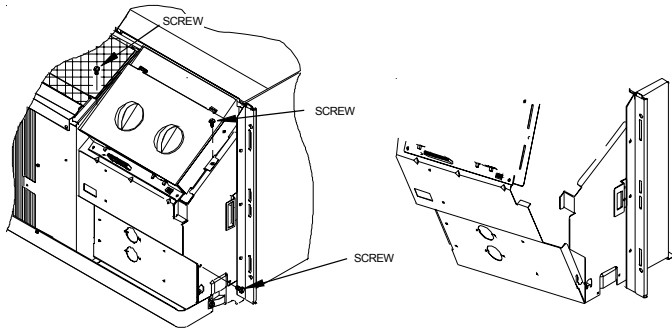

Figure 13
1. To gain access inside the control panel, remove the control knobs and escutcheon, remove the three screws holding the panel in position, and tilt control panel forward, being careful not to pinch any wires (Figure 13).